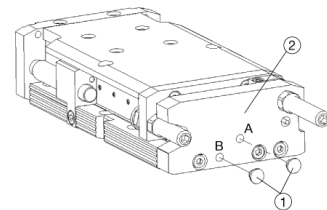

fig 5
1. Remove the protective stopper M5 (1) from the end plate (2).
3. Connect pneumatic hoses as per diagram; fig 5.